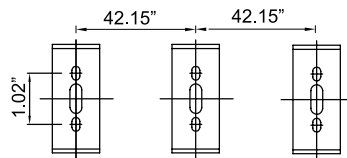

Figure 1
- Use appropriate mounting hardware (not supplied) to secure the Mounting Brackets to mounting surface (2 for 2ft & 4ft and 3 for 8ft) based on the drill patterns. See Figure 1.